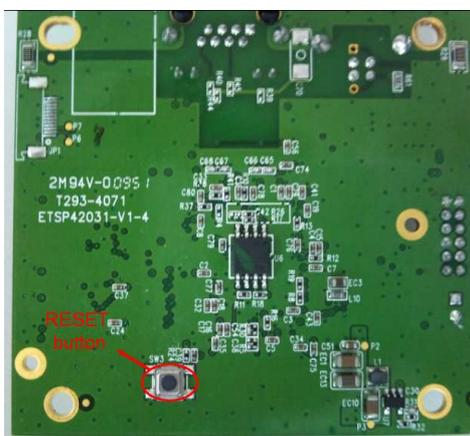

Figure 17.1
2. Press and hold the RESET button of Ethernet card (see Figure 17.1), and then turn on the printer. After 3 seconds, release the button. At this time, the Ethernet card enters **boot loader** and Green LED shows only.